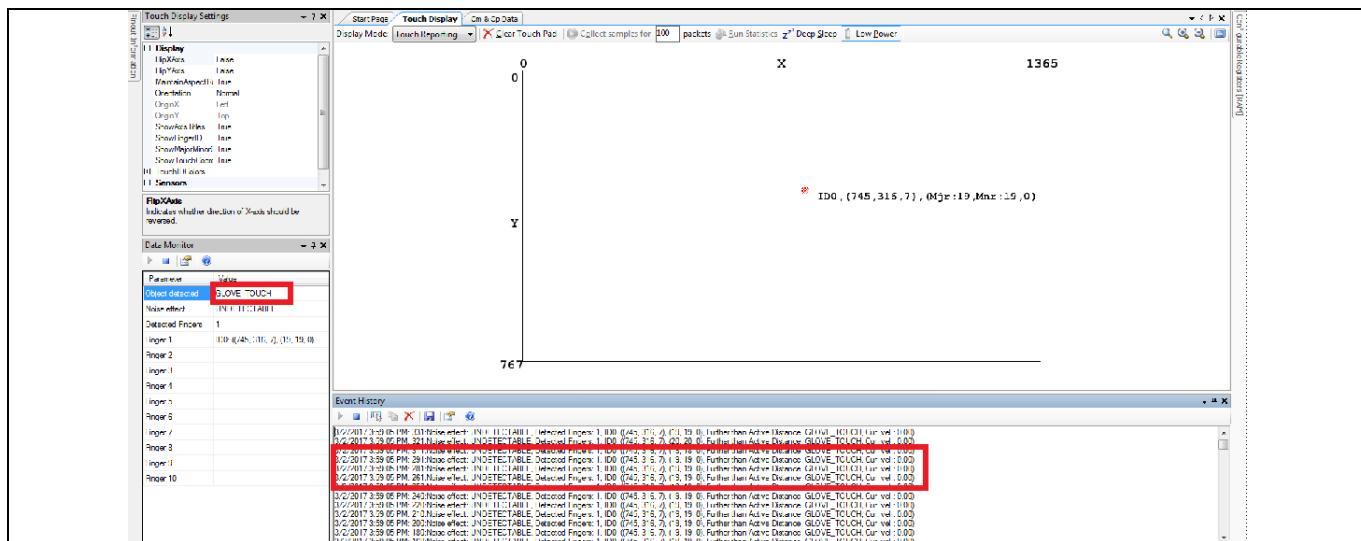

Figure 17 Glove touch report in data monitor and event history panels
17. To view Glove Touch performance, select **View > Tool Windows > Data Monitor**. Position the Data Monitor panel in the left lower panel as shown in Figure 17.
19. Select **View > Tool Windows > Event History**. Position the Event History panel at the bottom, as shown in Figure 17.